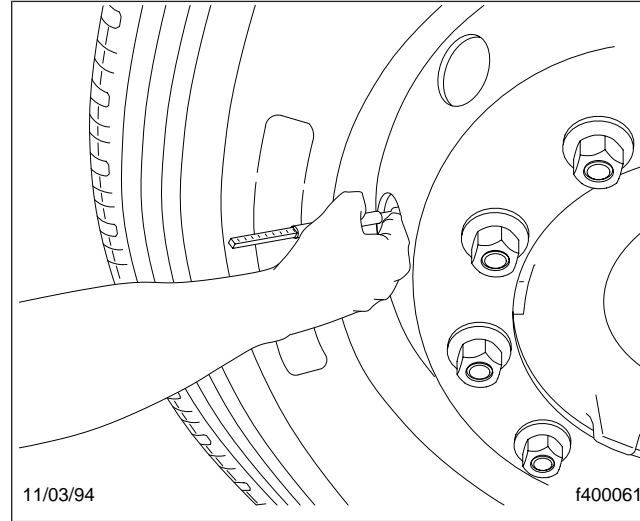

Fig. 9.5, Check Tire Pressure
37.1 Check the inflation pressures of the tires before each trip using an accurate tire pressure gauge (**Fig. 9.5**). Tires should be checked when cool. Be sure the valve stem